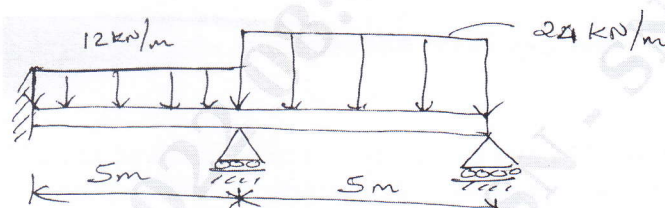

Fig.Q5(b)
b. For a beam shown in Fig.Q5(b). Determine the deflections at mid span given $E = 2 \times 10^5 \text{ mm}^2$ and $I = 5 \times 10^6 \text{ mm}^2$.